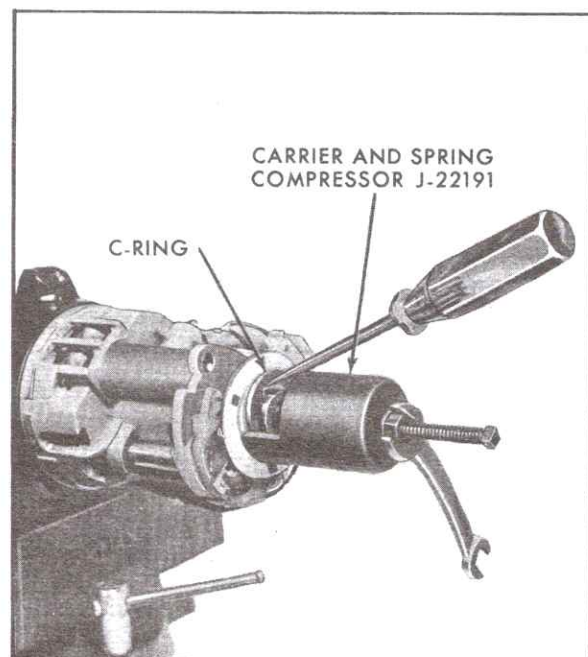

Fig. 9-50 Removing and Installing C-Ring
using Carrier and Spring Compressor, J-22191, making certain that half-socket shaped portion of tool contacts inner shoulder of horn contact carrier assembly and allows access to C-ring, Fig. 9-50. Steady tool with hand and turn screw just enough to free C-ring and remove C-ring.
30. Install Carrier and Spring Compressor, J-22191, on column so that half socket shaped portion of tool contacts inner shoulder of horn contact carrier assembly on left side. Turn screw just enough to allow installation of C-ring and install C-ring from right side so that it engages tab seat in horn contact carrier assembly, Fig. 9-50.